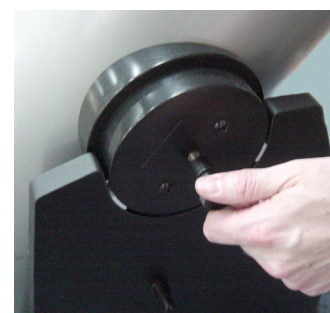

Fig 2. Removing existing Alt screw
2) Remove existing screw 'B' as shown in Fig 2. and retain plastic sleeve and spring.